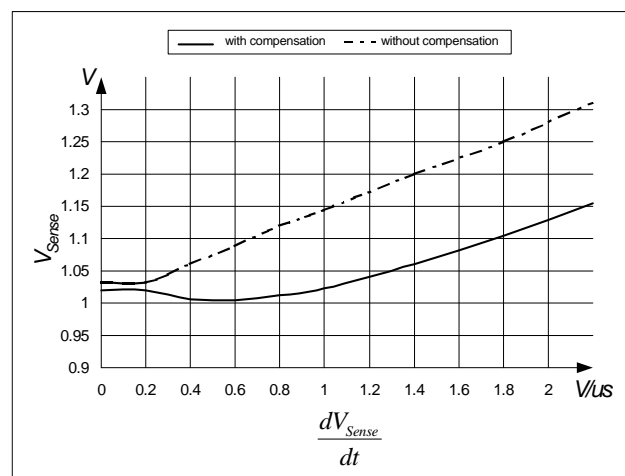

Figure 19 Overcurrent Shutdown
E.g. $I_{peak} = 0.5\text{A}$ with $R_{Sense} = 2$. Without propagation delay compensation the current sense threshold is set to a static voltage level $V_{csth} = 1\text{V}$. A current ramp of $dI/dt = 0.4\text{A}/\mu\text{s}$, that means $dV_{Sense}/dt = 0.8\text{V}/\mu\text{s}$, and a propagation delay time of i.e. $t_{Propagation\ Delay} = 180\text{ns}$ leads then to a I_{peak} overshoot of 14.4%. By means of propagation delay compensation the overshoot is only about 2% (see Figure 19).